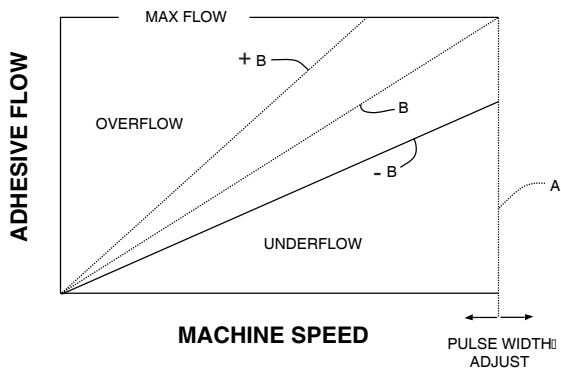

Figure 6-6.
4. Turn the pulse-width adjustment fully counterclockwise until you hear a click. This sets the circuit for high parent-machine speed. (This is equal to moving line “A” in Figure 6-6 as far to the right as possible.)
Adjustment of the pulse width is equivalent to shifting line “A” to the right or the left in the Figure 6-6.